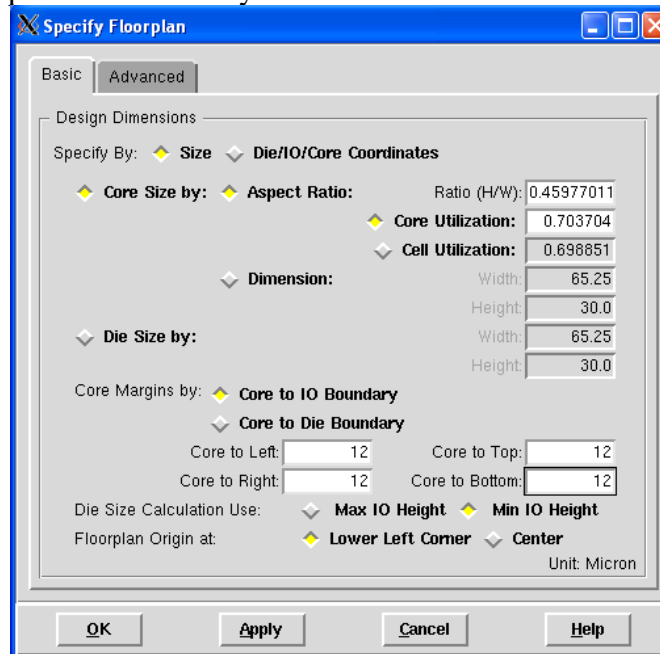

Fig 17: Specify Floorplan dialog box with proper settings
- In the **Core Margins by** section, change all **Core to** dimensions to 12. This will create a 12 micron buffer on all sides of the XOR module for I/O ports. Set the remaining options to match Fig. 17 (values in grayed-out textboxes are ignored and may be different). Then press **OK**. A floorplan core boundary will be added to the main Encounter window.